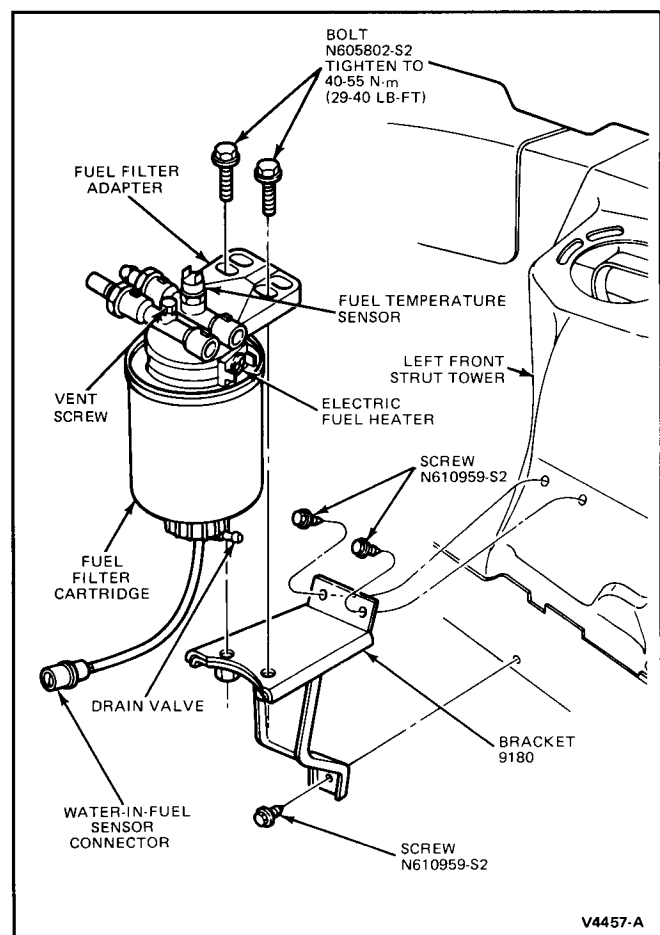

FIG. 1 Fuel Heater Assembly Installation
5. Remove the two bolts retaining the fuel heater/filter adapter to the bracket (Fig. 1), and remove from vehicle.
2. Position the fuel filter adapter (with fuel heater attached) to the bracket and install with two bolts (Fig. 1). Tighten to 40-55 N·m (29-40 lb-ft).